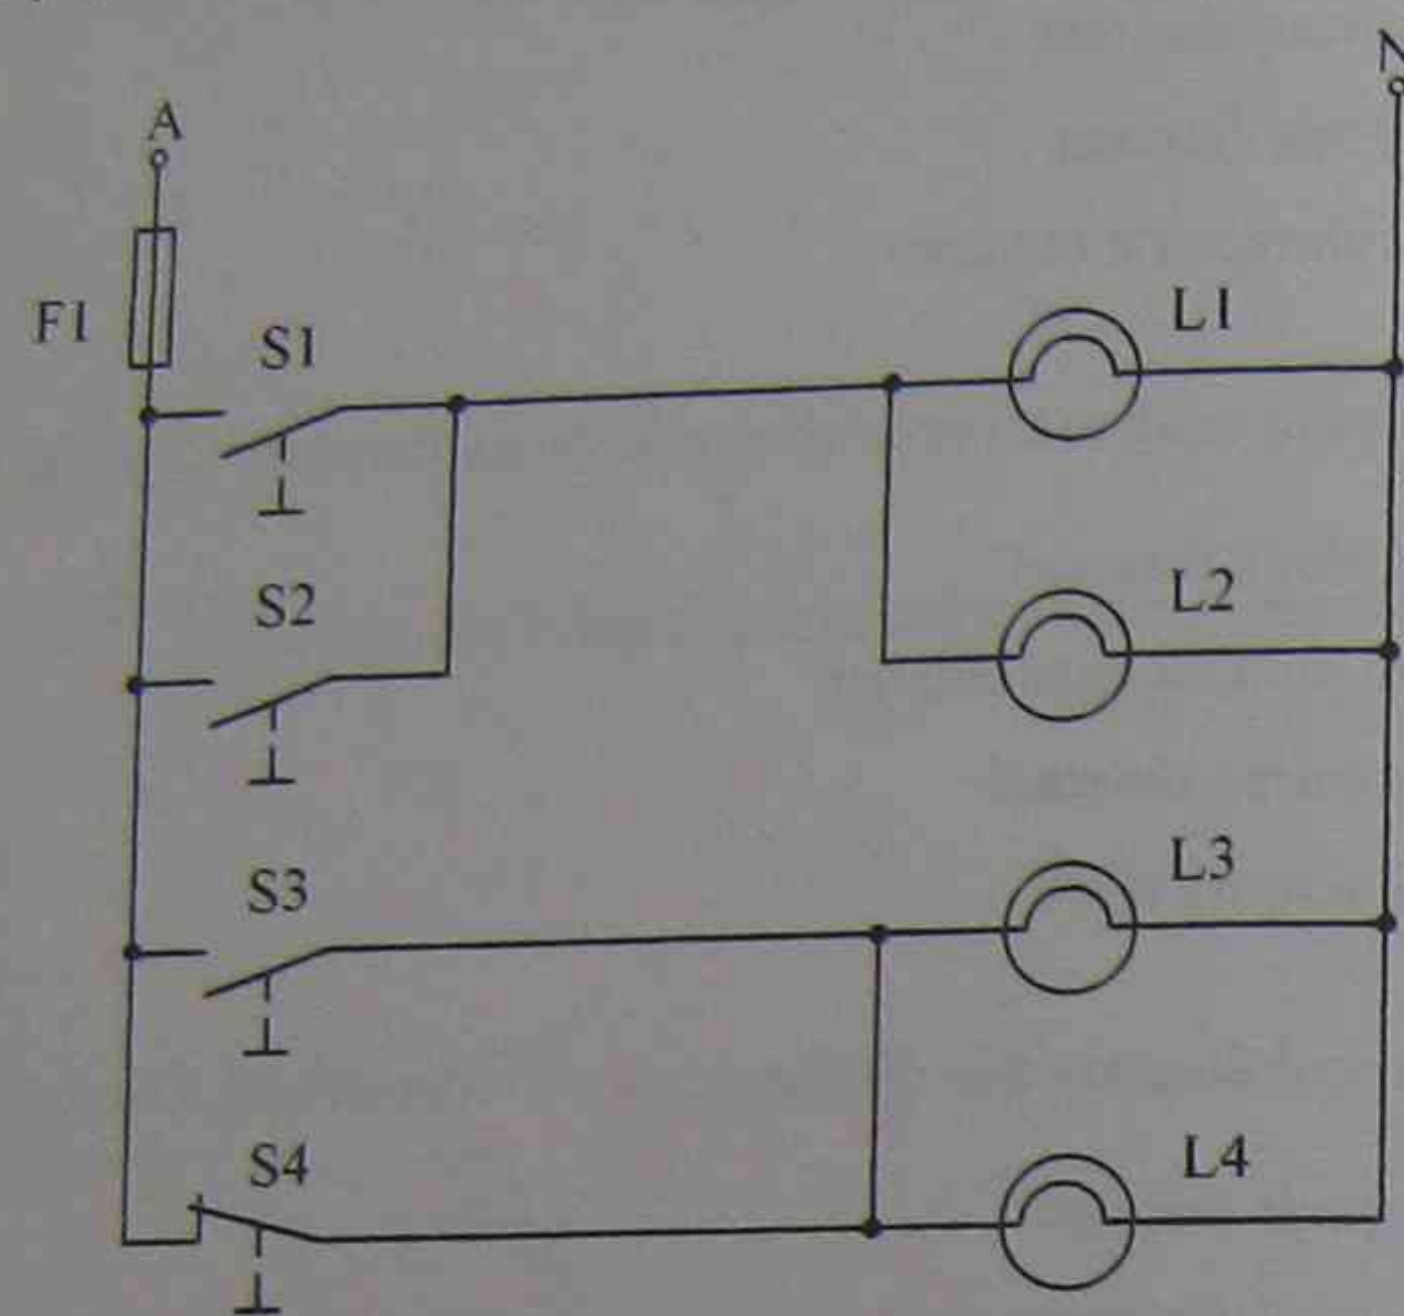

Figure 19 Circuit diagram – lighting control
12. The circuit shown in Figure 19 represents the switching circuit for the control of four lighting points. Using the equipment layout in Figure 20, develop and draw the wiring diagram for this circuit.